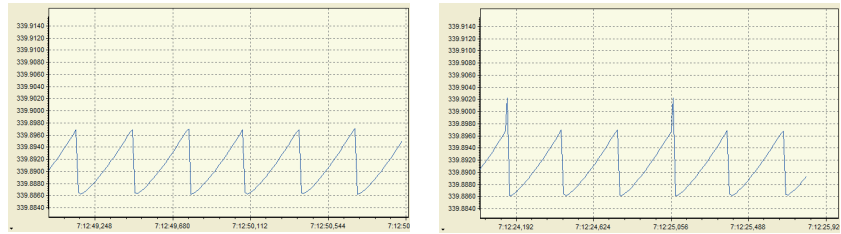

Figure 3.4: Frequency of a laser scanning properly (left) and with a mode-hop at one edge (right).
The external cavity length is usually controlled by piezo actuators moving the output coupler. The cavity length changes with piezo voltage, and for a large change, the laser will usually hop to a neighbouring cavity mode. Figure 3.3 is a schematic of the net gain variation with laser frequency, showing two adjacent modes of very similar gain. Figure 3.4 is a measurement of the frequency of a laser scanning properly, and with a mode-hop at one edge of the scan.
6. If the wavelength is within a few pm (GHz) of your target, increase the SPAN while observing the Fizeau wavemeter Long Term measurement (or spectroscopy scan or FP cavity transmission on an oscilloscope), as shown in fig. 3.4.